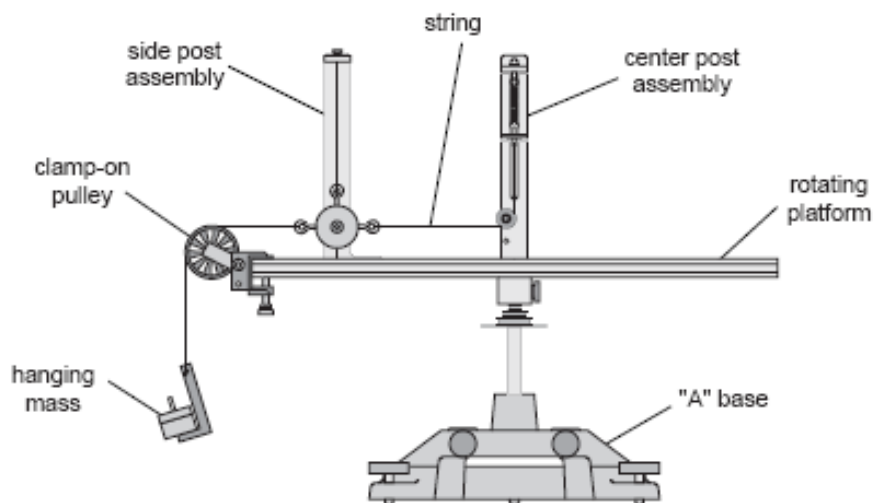

Figure 4
2. Measure the mass of weight and record its mass in Table 3.1. Hang the rotary body from the side post and connect the string from the spring to the object. The string must pass under the pulley on the center post. As shown in figure 4.